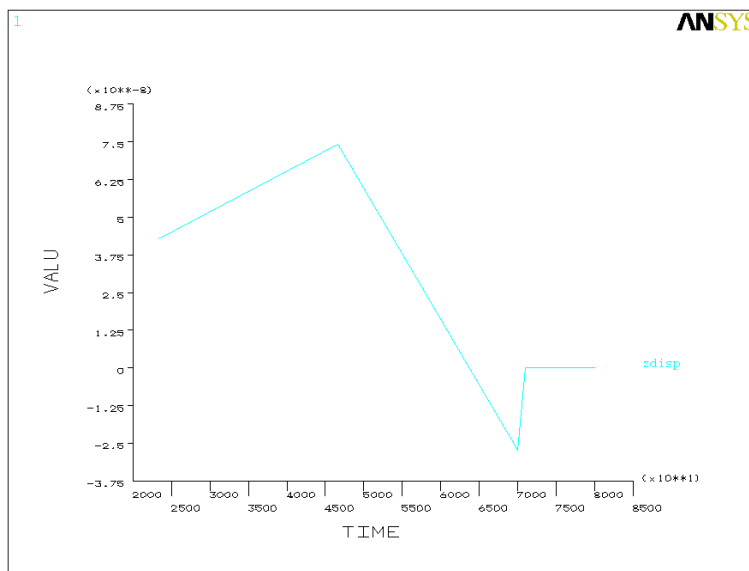

Figure 8.2
9. Enter 2 as the first variable to graph (variables here must be referred to by their reference number rather than their user-defined names), then click 'OK'. The resulting plot is shown in Figure 8.2.